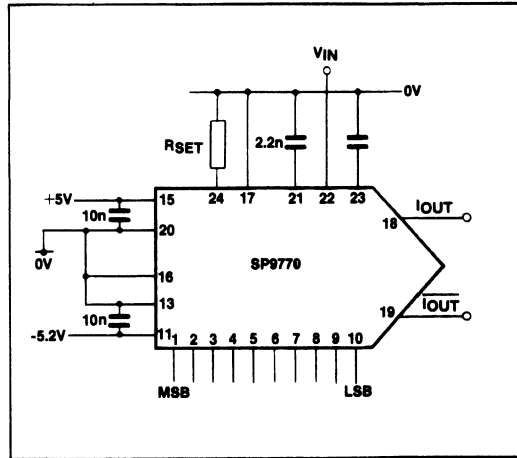

Fig.5 Multiplying mode operation (voltage mode)
**Voltage multiplying.** A circuit for using the DAC in voltage multiplying mode is shown in Fig.5. The transfer function is approximately:  $I_{OUT} \text{ (Full Scale)} = 4 \times V_{IN}/R_{SET}$ . While this mode offers the best linearity of operation, the frequency response limitations outlined in Note 3 mean that the maximum useable bandwidth is limited to approximately 35kHz.